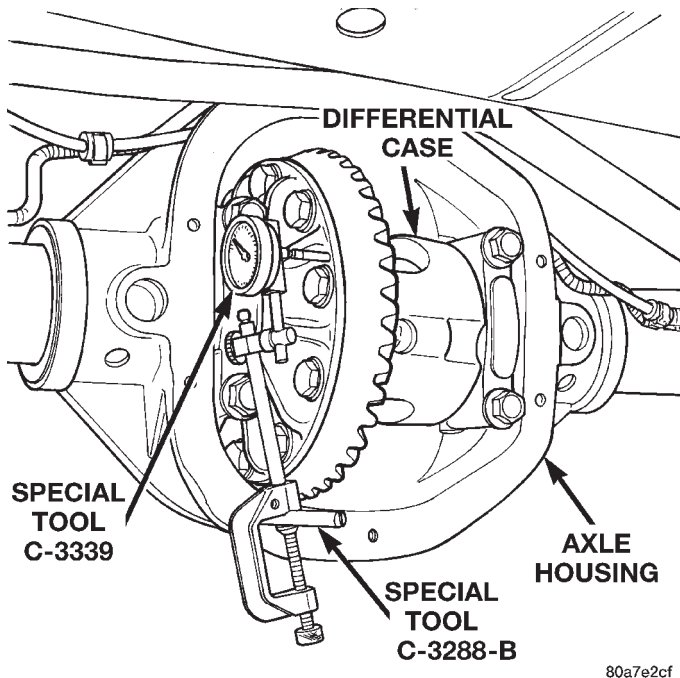
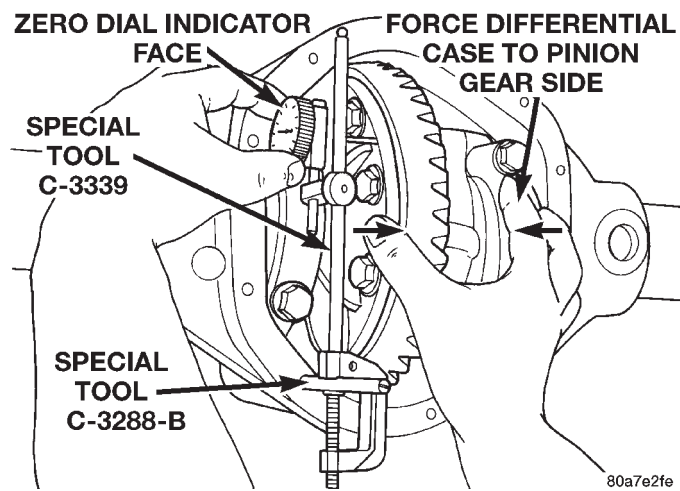
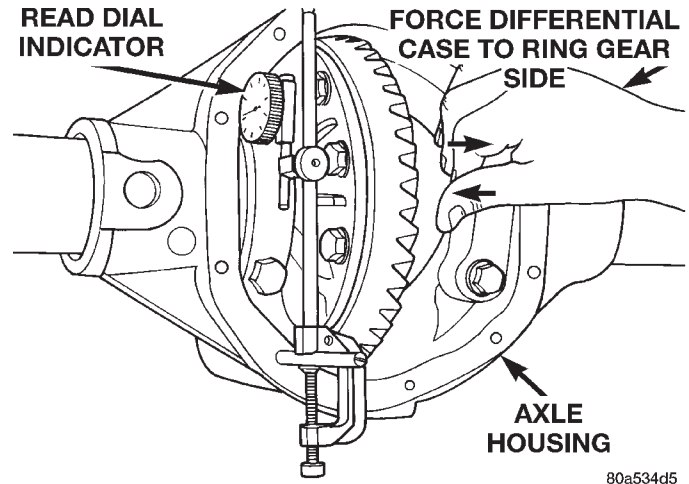
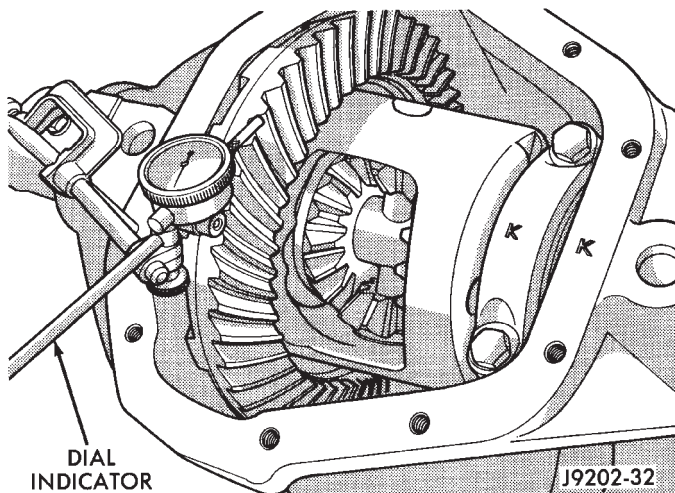

Fig. 85 Differential Side play Measurement
Fig. 86 Hold Differential Case and Zero Dial Indicator
Fig. 87 Hold Differential Case and Read Dial Indicator
Fig. 88 Ring Gear Backlash Measurement
(8) Thread guide stud C-3288-B into rear cover bolt hole below ring gear (Fig. 85).
(9) Attach dial indicator C-3339 to Guide Stud C-3288-B. Position the dial indicator plunger on a flat surface between the ring gear bolt heads (Fig. 85).
(10) Push and hold differential case to pinion gear side of axle housing.
(11) Zero dial indicator face to pointer (Fig. 86).
(12) Push and hold differential case to ring gear side of the axle housing.
(13) Record dial indicator reading (Fig. 87).
(14) Add the dial indicator reading to the starting point shim thickness to determine total shim thickness to achieve zero differential end play.
(20) Position the dial indicator plunger on a flat surface between the ring gear bolt heads (Fig. 85).
(21) Push and hold differential case toward pinion gear.
(22) Zero dial indicator face to pointer.
(23) Push and hold differential case to ring gear side of the axle housing.
(24) Record dial indicator reading.
(25) Add the thickness of the dummy shim to the recorded dial indicator reading.
(26) Subtract 0.008 in. (0.2 mm) from the recorded value to compensate for backlash between ring and pinion gears. This total is the thickness of shim required to achieve proper backlash.
(27) Subtract the backlash shim thickness from the total preload shim thickness. The remainder is the shim thickness required on the pinion side of the axle housing.
(28) Rotate dial indicator out of the way on guide stud.
(29) Remove differential case and dummy bearings from axle housing.
(30) Install new side bearing cones and cups on differential case.
(31) Install spreader W-129-B on axle housing and spread axle opening enough to receive differential case and side bearing shims.
(32) Place side bearing shims in axle housing against axle tube ends.
(33) Install differential case in axle housing.
(34) Remove spreader from axle housing.
(35) Rotate the differential case several times to seat the side bearings.
(36) Position the indicator plunger against a ring gear tooth (Fig. 88).